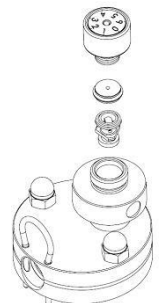

fig. 16
- Put-in the return valve and the air disc. Put on the air regulation screw (fig. 16).